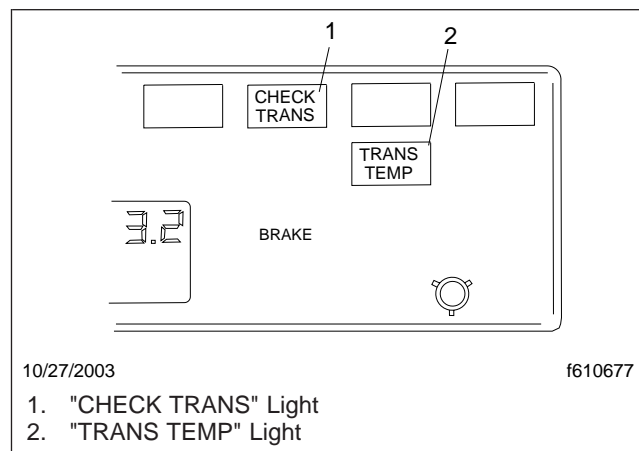

Fig. 8.13, Telltale Lights, UltraShift Transmission
1. With the parking brake set, select neutral (N) by moving the selector switch to the N position.
2. With the transmission in neutral, turn on the ignition switch. The "CHECK TRANS" and "TRANS TEMP" telltale lights come on and go out again (bulb check). See Fig. 8.13.
2. Select neutral (N) by moving the selector switch to the N position. When the "N" on the gear indicator is solid, rather than flashing, the UltraShift TCU is ready to power down. See Fig. 8.13.